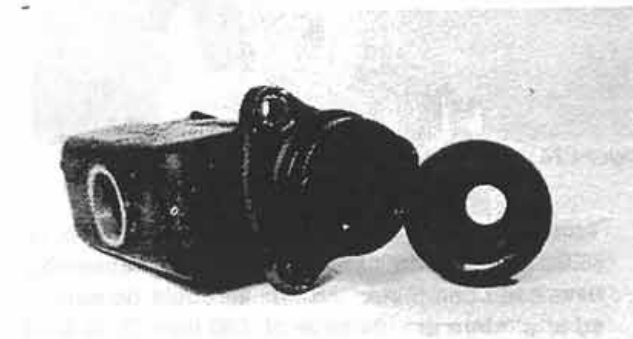

Figure 3:
3. Remove the fill cap and pour the fluid into a waste container. Remove the rubber dust boot from the rear of the cylinder to expose the snap ring and piston (Fig. 3).